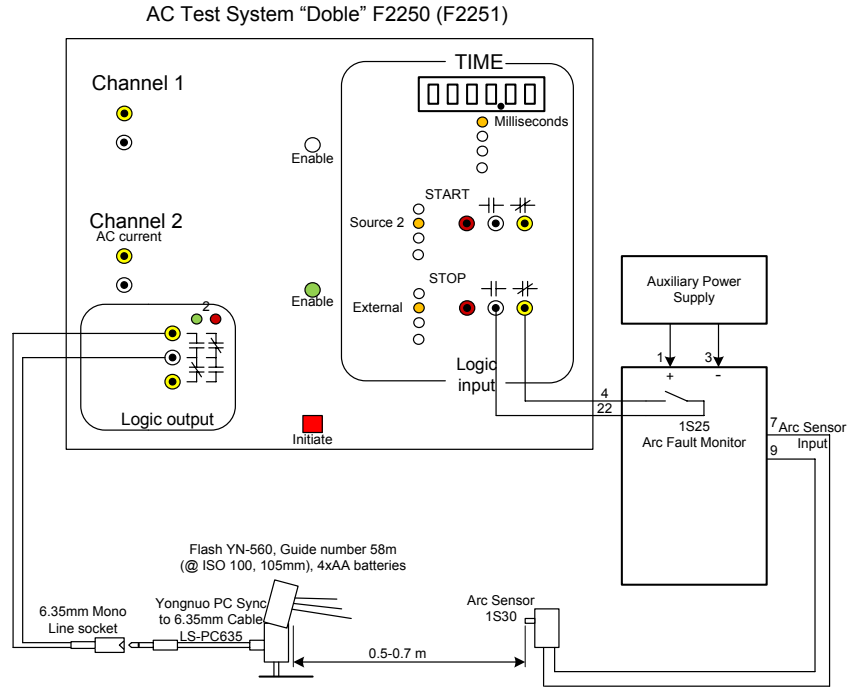

Figure 1: 1S25 test setup
1. Set up the test as shown in the Figure 1. Example shows testing for a single Zone 1 sensor operation.